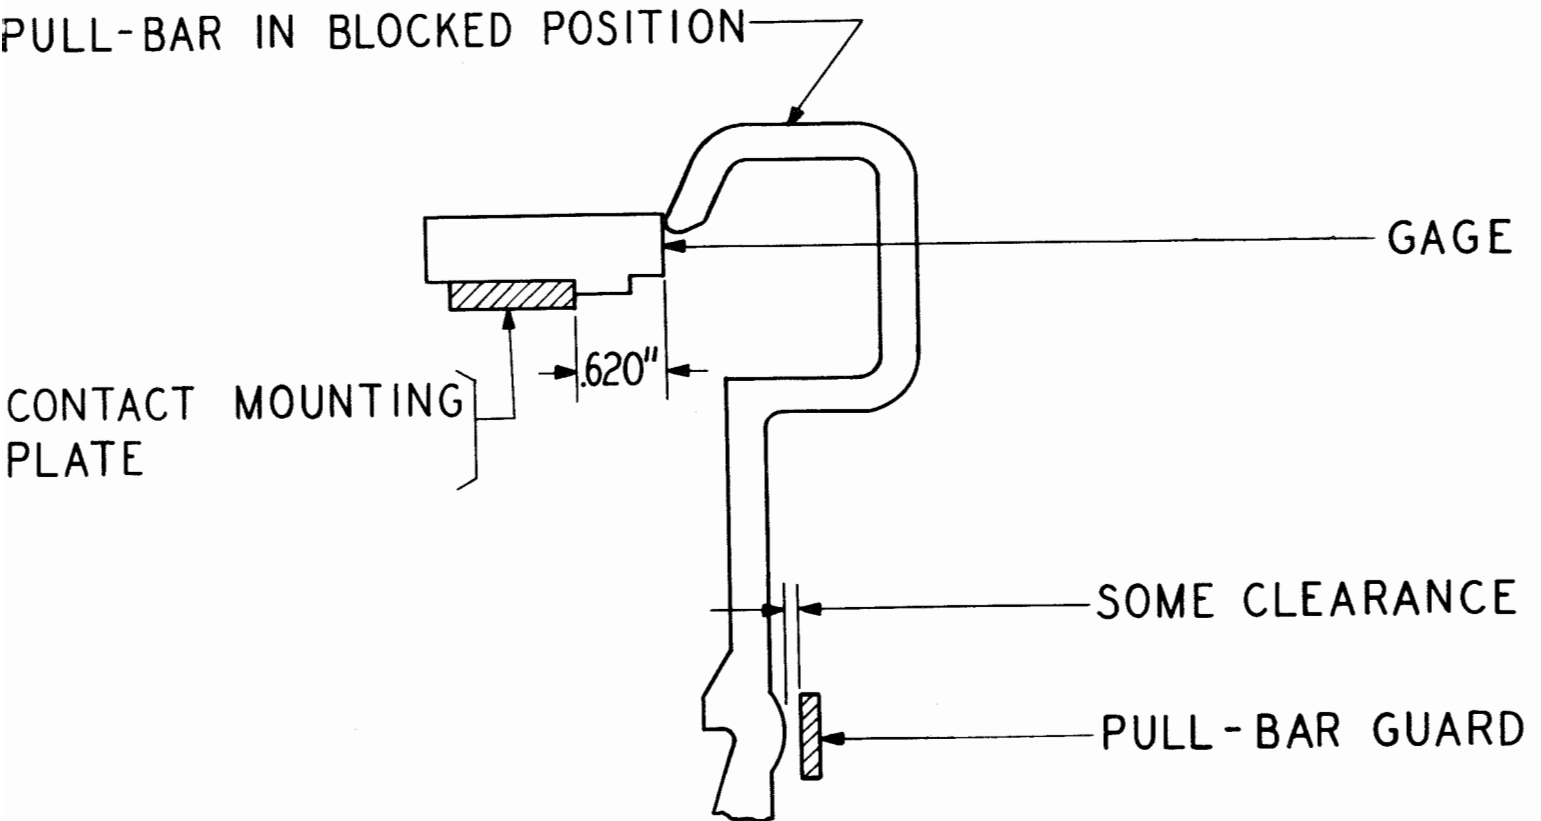

Figure 20
(b) The toes of the two end and one middle pullbar hooks should be as close as possible to 0.620 inch in front of the contact mounting plate. (See Figure 20.)
8.02 Pullbar Guard: The pullbar guard should meet the following requirements with the main bail in its lowest position: (See Figure 20.)